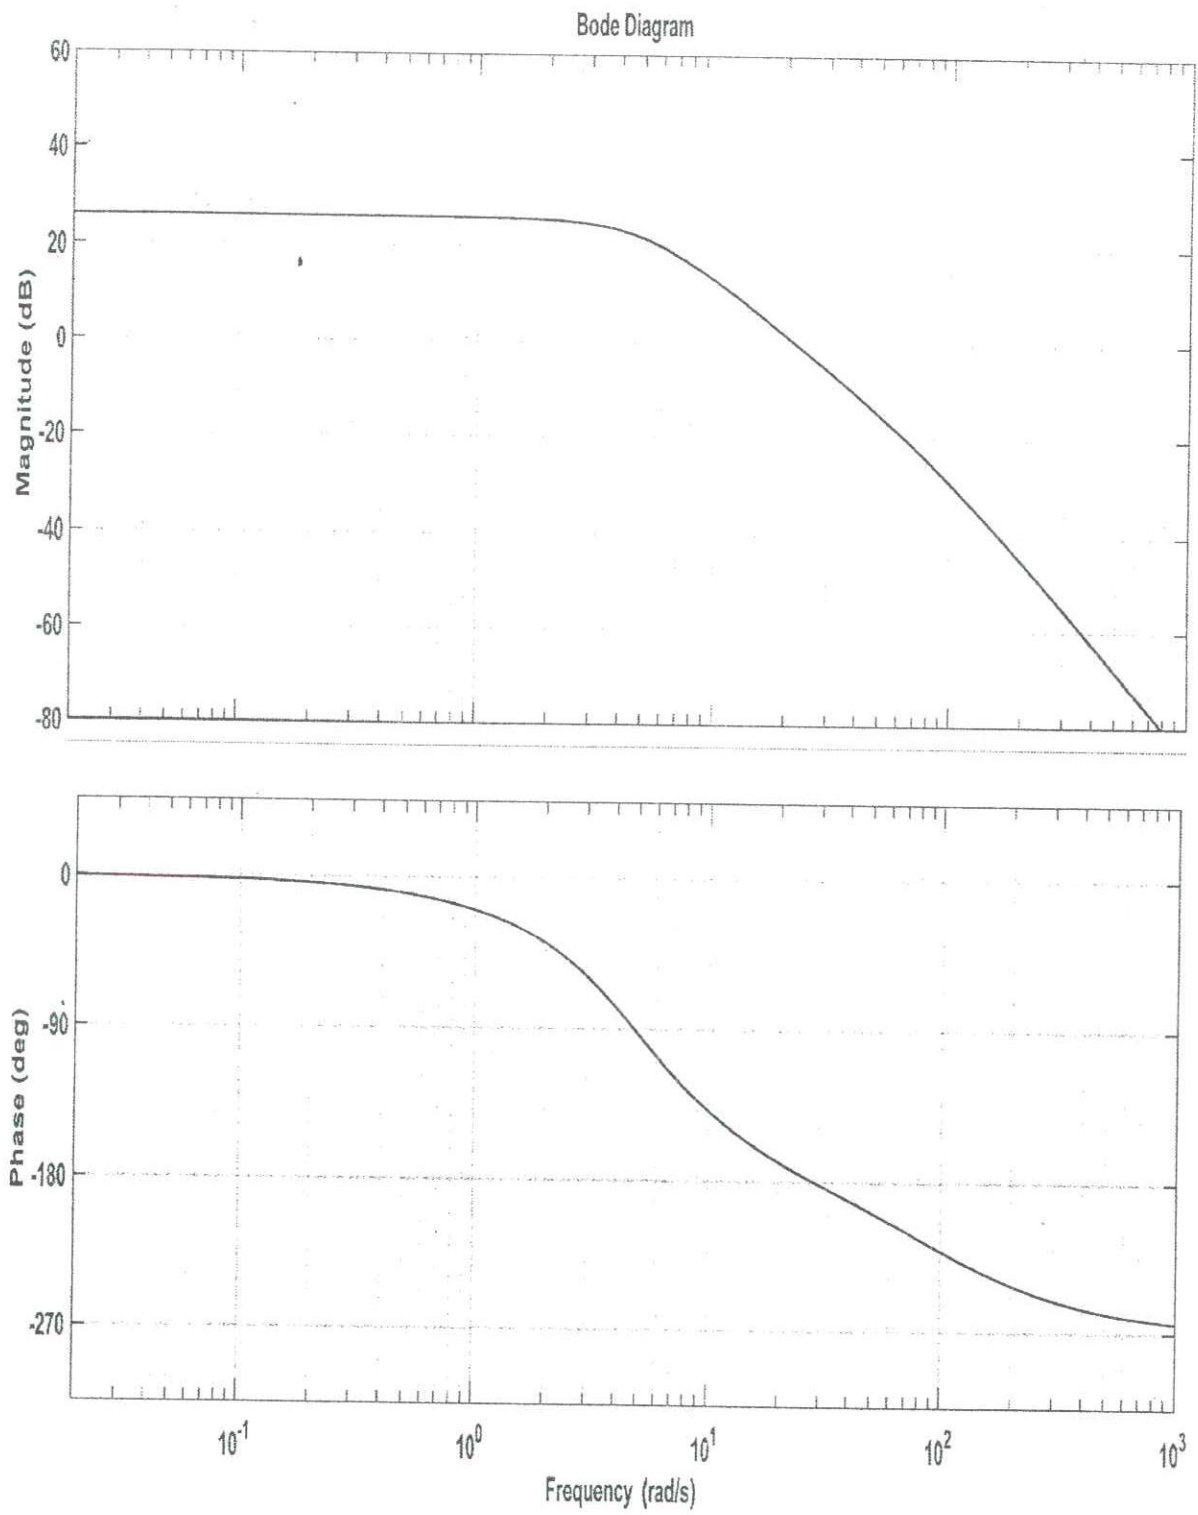

Figure Q4
- c) The bode plot shown in Figure Q4 is obtained from a third-order system controlled by a simple proportional-only controller. Obtain the maximum value of proportional gain and corresponding cross-over frequency before closed loop system becomes unstable.
(Figure Q4 is printed on next page.)